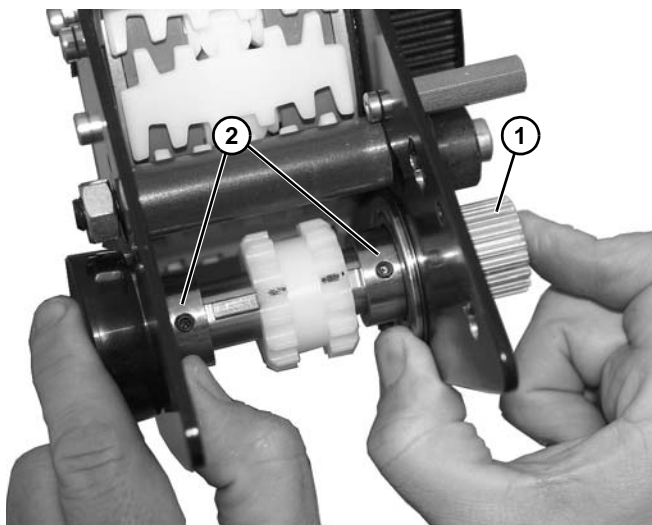

Figure 154
1. Install drive shaft (Figure 154, item 1) on two bearings (Figure 154, item 2) and press outward as shown.